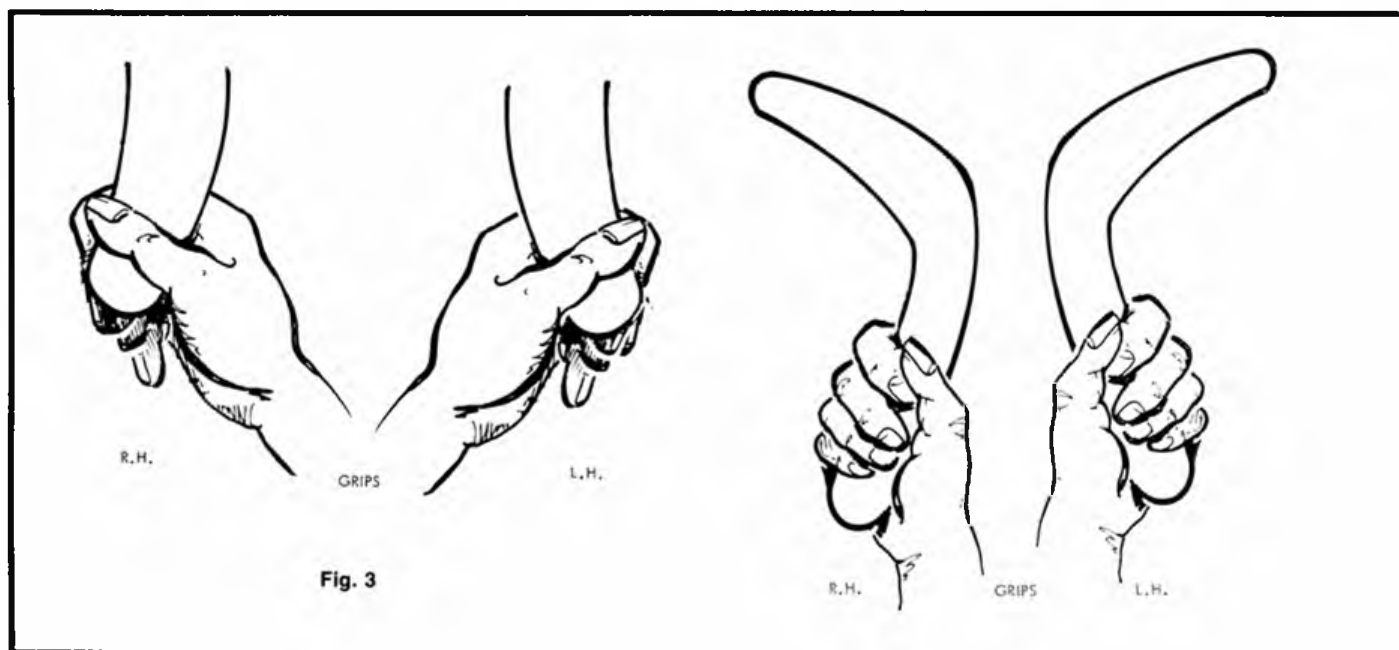

Fig. 3
4). Hold the tip of either arm (it doesn't matter which - choose the one that feels most comfortable) so that the flat surface of the boomerang faces your palm (fig. 3). Now you've got to launch it so that it leaves you spinning in a near vertical plane.